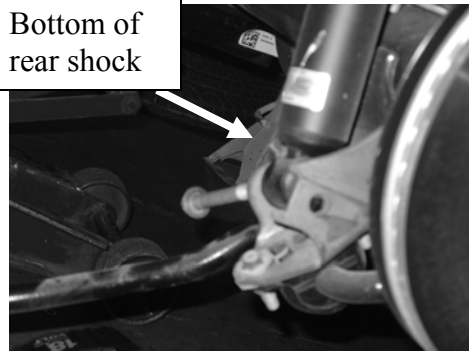

Figure 1
4. Remove two rear sway bar connections that are near the lower shock mounting points using a 3/8" impact gun with a 15mm socket. (Figure 1)
5. Remove lower shock bolt, one per shock, using a 3/8" impact gun with a 15mm socket. (Figure 1)